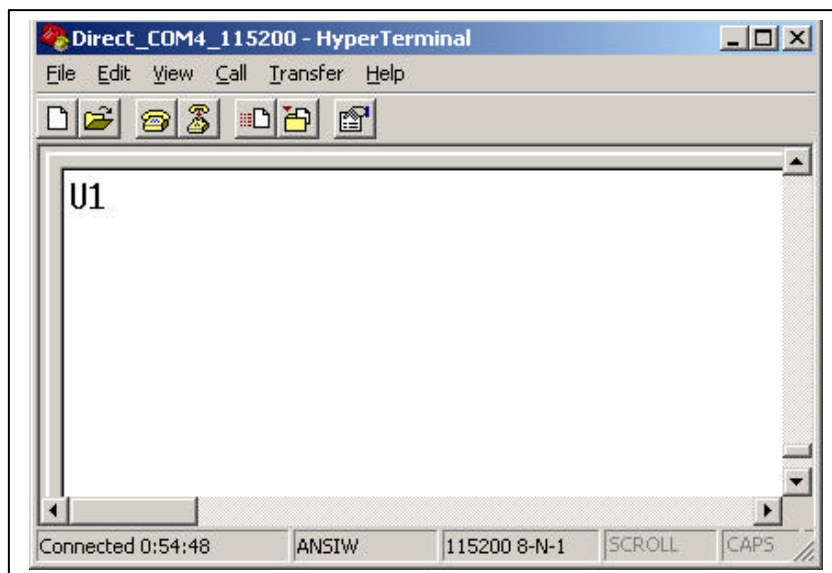

Figure 5. Direct COM4 – HyperTerminal
6. Type any characters in the COM4, the UART channel of SC16IS752/762 Bridge IC will receive them and then transmit them back to the UART channel. For example, type the character 1 in the COM4 and the character 1 will be displayed in the COM4 as result of the character 1 has been looped back from the UART channel as shown in Figure 5